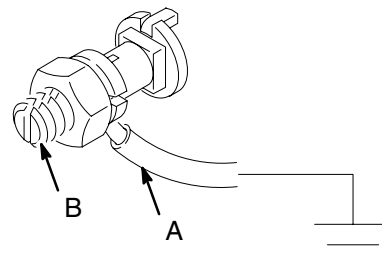

Fig. 1
To ground the agitator, connect one end of the ground wire (A) to the ground connector (B) on the rim of the drum cover. See Fig. 1. Connect the other end of the ground wire to a true earth ground.